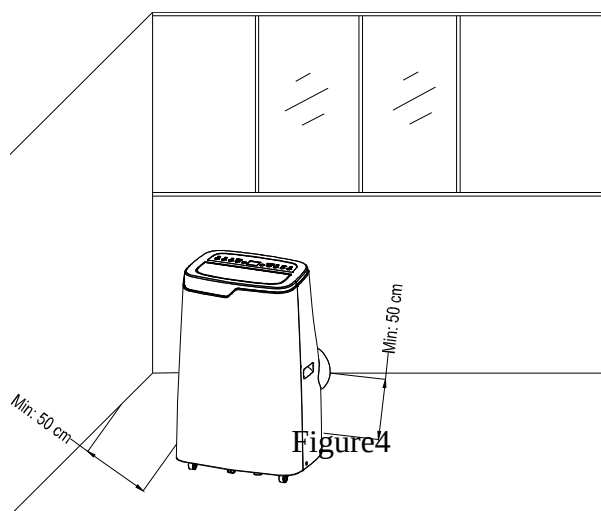

Figure4
- Move the machine with installed heat pipe and fittings before the window, and the distance between the body and walls or other objects shall be least 50 cm (as shown in Fig.4).